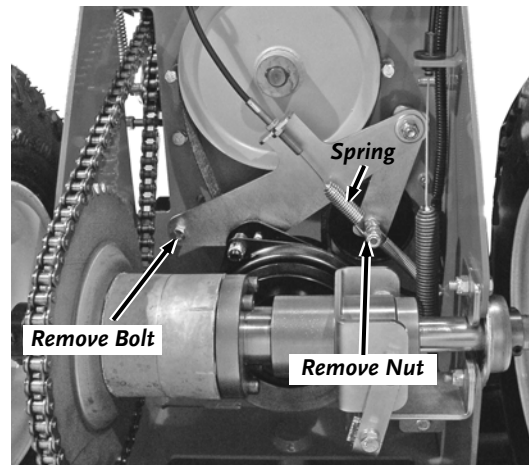

Figure 18
5. Remove the Bolt on the Clutch Bracket and the Nut on the Clutch Drive Spring (**Figure 18**).